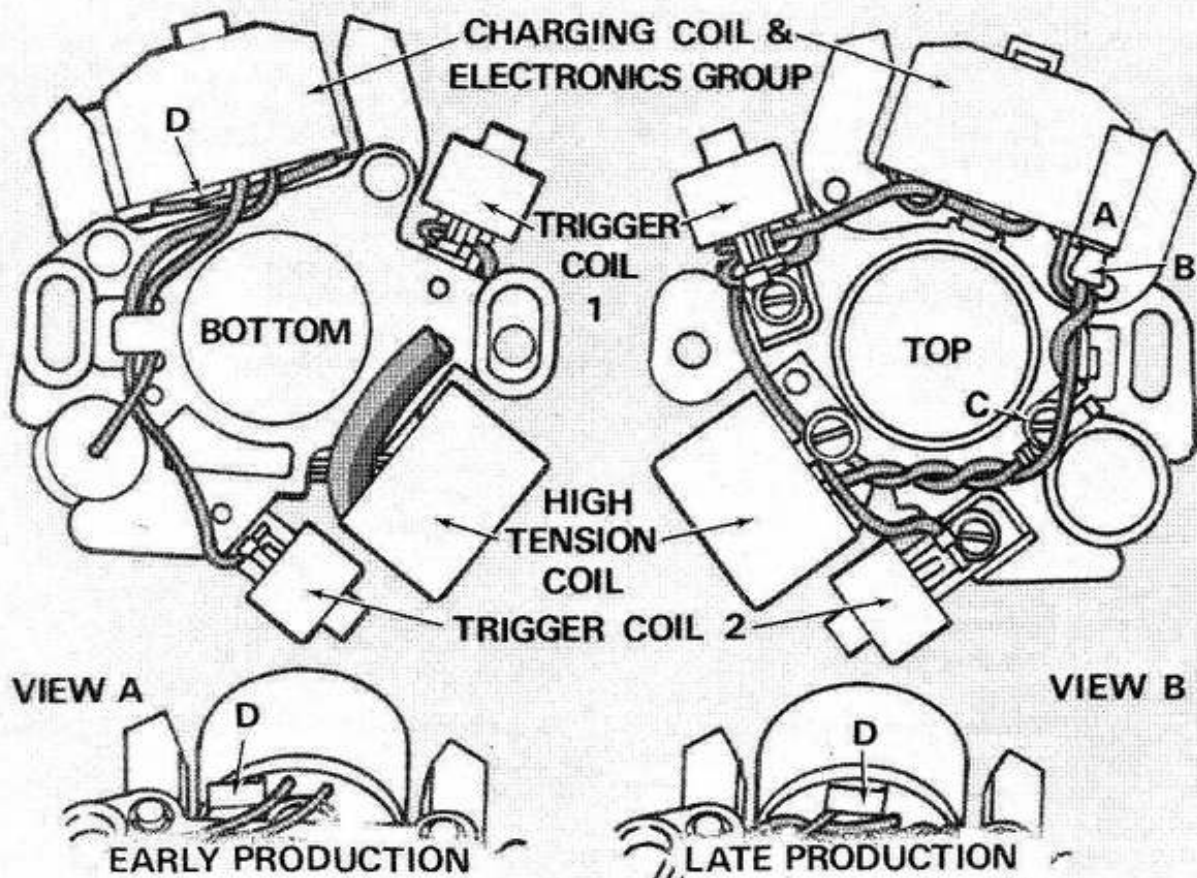

Figure 58. CD Breakerless Magneto Test.
Before taking readings remove two (2) stator hold down bolts and lift unit off engine. At this time determine if unit is an early production or a late production CD magneto. Note the position of terminal (D) on the charging coil and electronics group. Early production units have the D terminal located left of center. (See Figure 58. - View A.) Use Test A. Late production terminal (D) is located slightly right of center of coil. (See View B.) Use Test B.